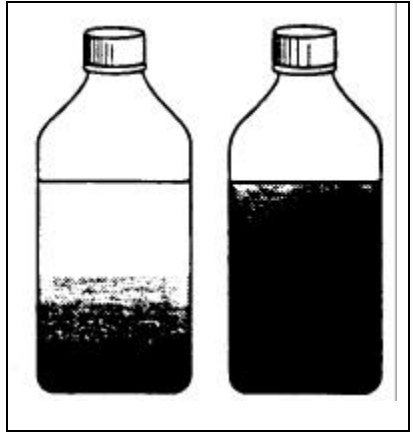

Fig 12A-2 Organic Impurities Test
4. **Slump Test** (Fig 12A-3). The slump test is a measure of the consistency (workability) of concrete and is also a simple means of ensuring that each batch delivered is uniform. Sufficient tests should be carried out each day to check that uniformity is being maintained. The allowable limits will be specified by the project engineer who ordered the work. Variations in water content of the concrete usually result in variable strengths. Other factors which can affect the slump are the grading and particle shape of the aggregate and the cement content.